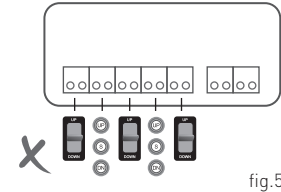

fig.5
- Does not support fixed position switch mode and momentary switch mode simultaneously. See below picture. (fig. 5)